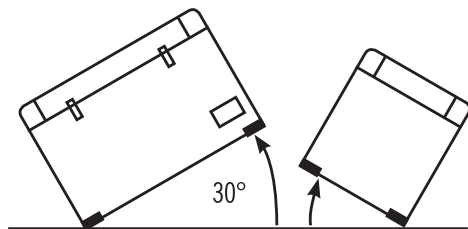

FIG. 2
The cooling system has been designed to operate correctly when the appliance is positioned on angles up to 30 degrees. It is recommended that the time the unit is exposed to angles over 30 degrees is limited to a maximum of four (4) hours continuous operation. (Fig. 2).